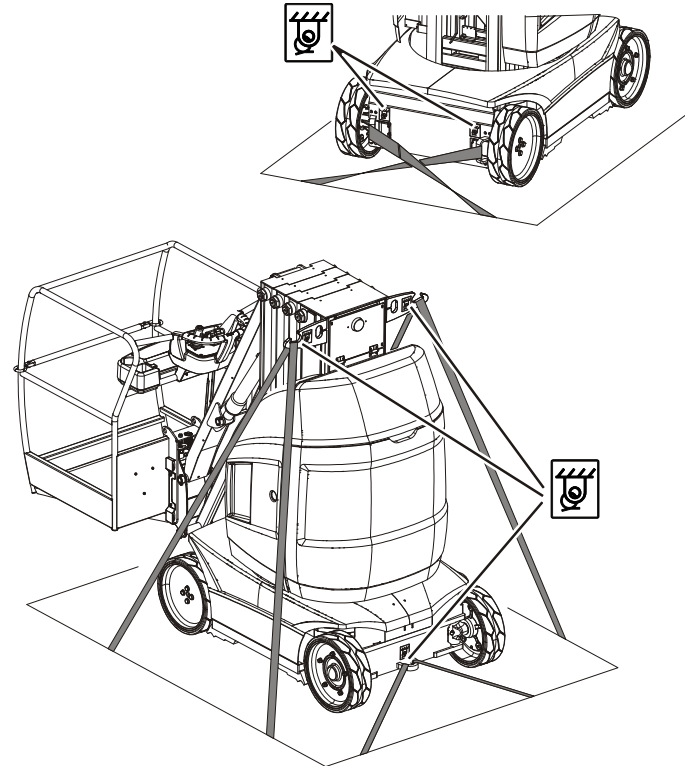

Figure 4-9. Machine Tie-Down
- Machine must be tied down to the truck bed or trailer deck as shown in Figure 4-9.